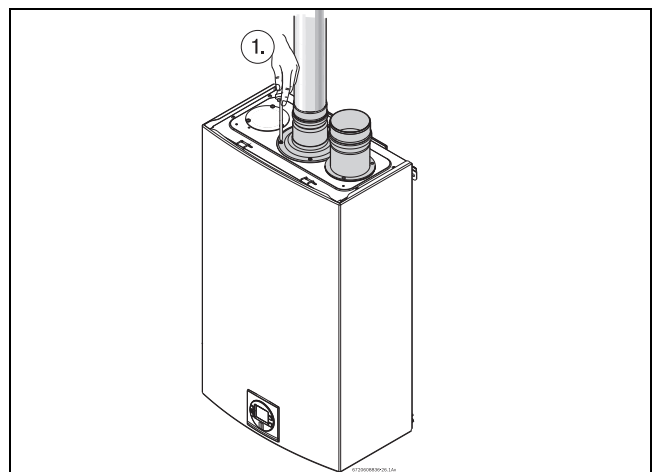

Fig. 18 Exhaust connection
- ▶ Attach the flue gas exhaust accessory to the top of the unit fig. 18 (position 1) using the 4 screws and gasket provided, and fully insert the vent pipe into the accessory. If using 4" venting, a 3" to 4" increaser should be installed directly after this accessory. If using 2" venting, a 3" to 2" reducer should be installed directly after this accessory. If using the PP twin pipe system, adapters from the appliance adapter (3" PVC compatible) to the PP system are needed.